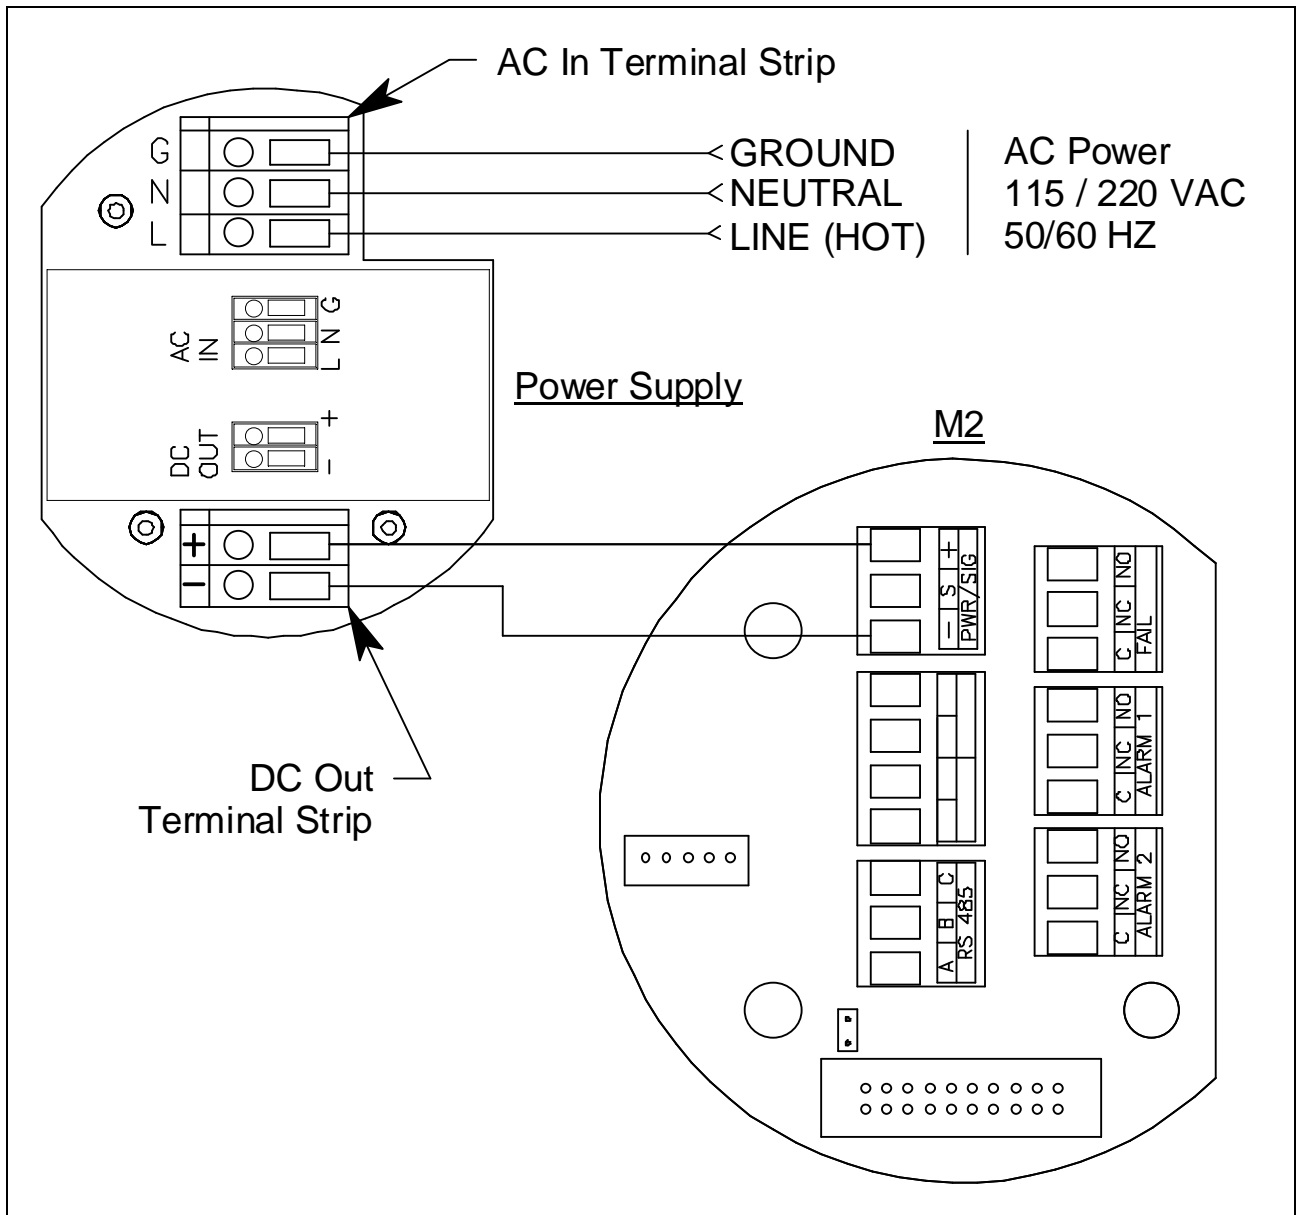
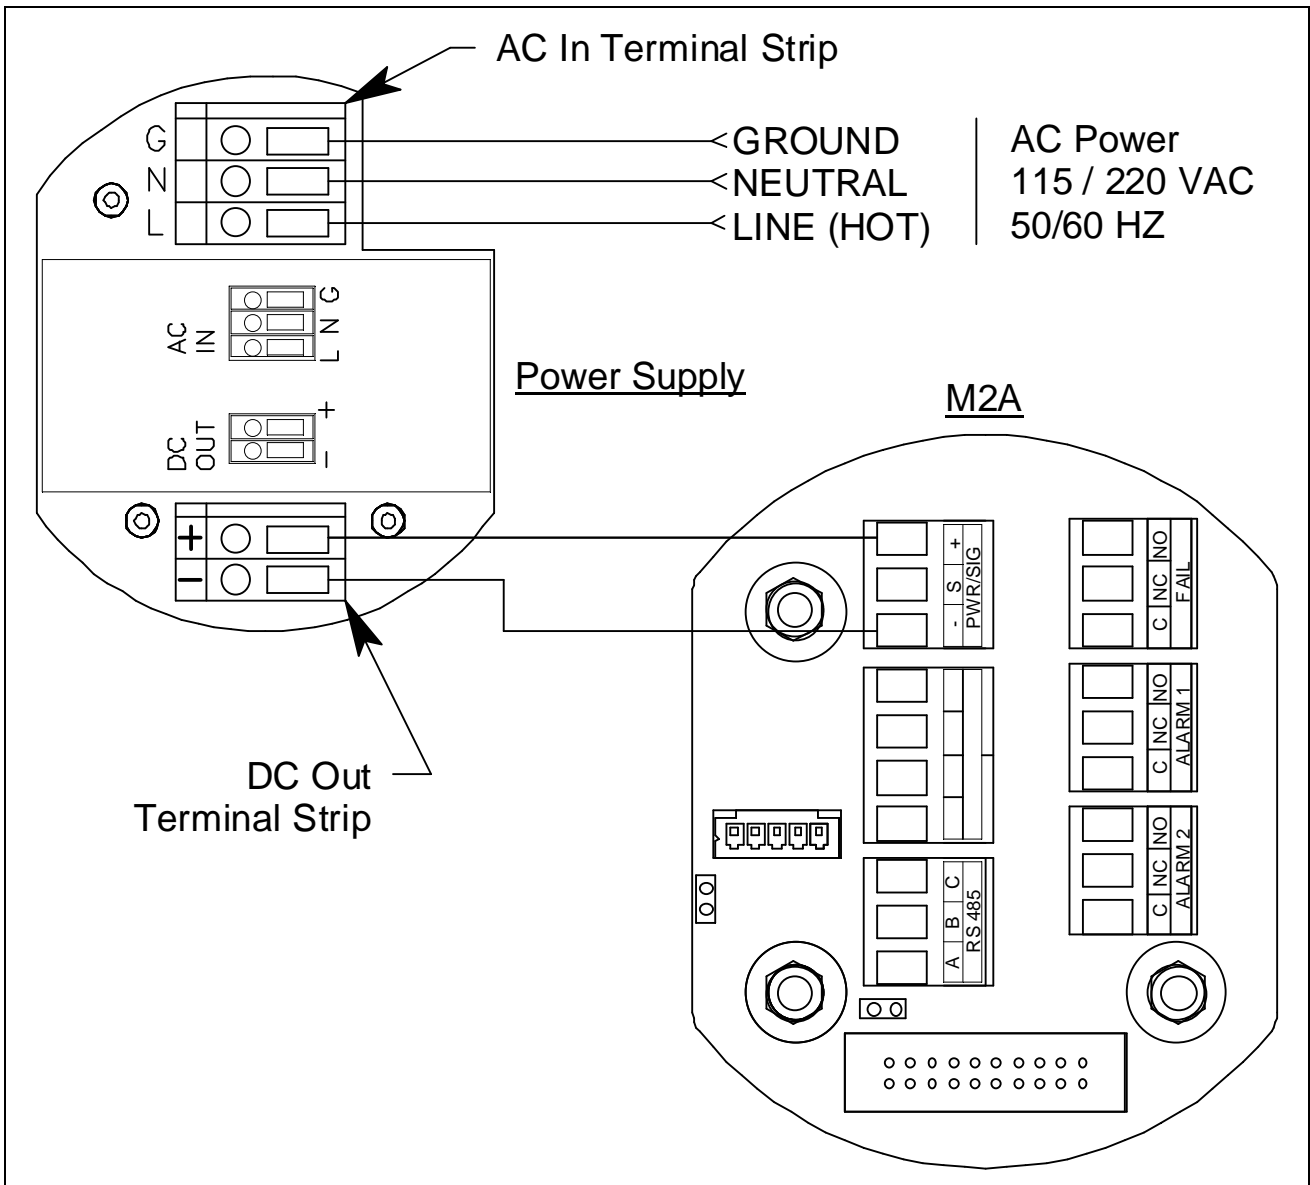

Figure 5: Wiring to an M2
Figure 6: Wiring to an M2A
9. Connect the wires to the power terminal strip as shown in Figure 5 and Figure 6 below.